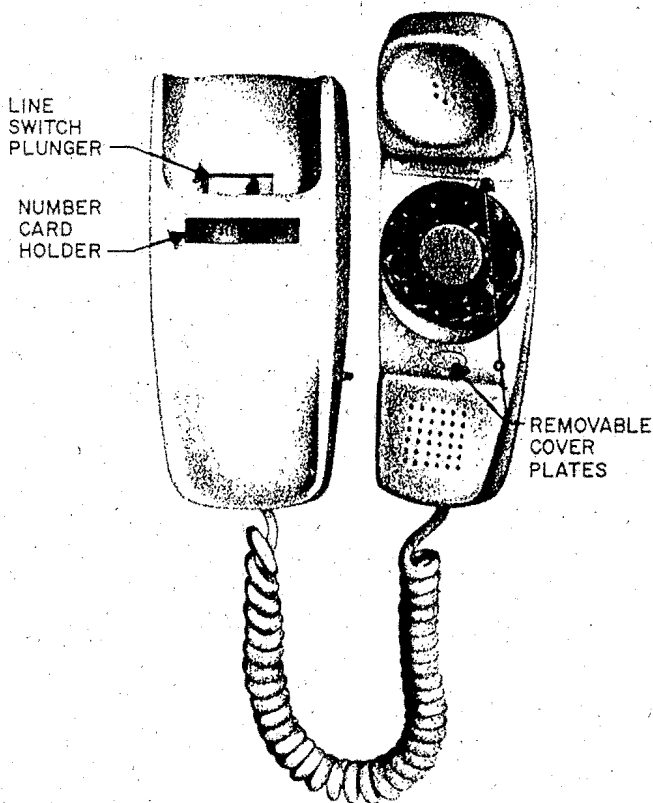

Fig. 3 - F-56093 Telephone Set
5.03 To remove housing from F-56093 wall set (Fig. 3):
- (1) Hold the housing upside down so that the line switch plunger is exposed (Fig. 3).
- (2) Place a finger on the front of the exposed plunger to hold it in place.
- (3) While holding plunger, turn housing upright and place in position over the backplate.
- (1) Use a KS-16750, List 1 releaser, to remove both covers (Fig. 3).